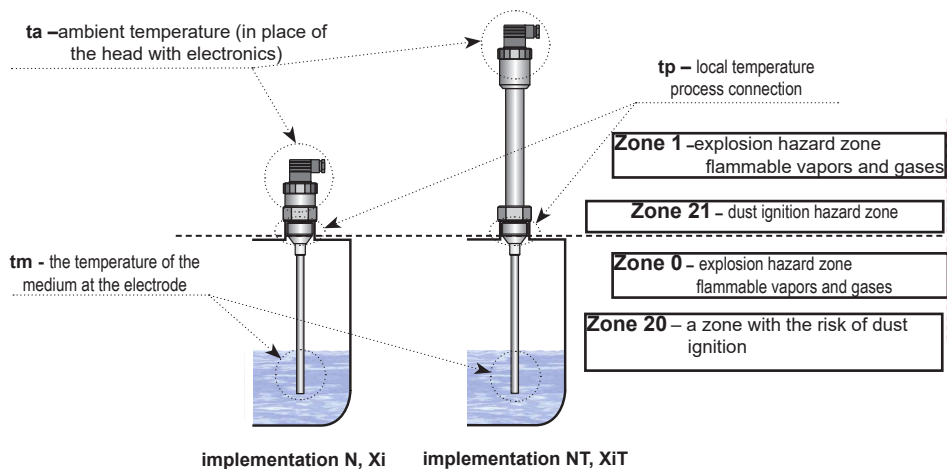

Fig. 14: Points for determining temperatures on the level meter
1) The indicated temperatures are clearly explained in Fig. 14